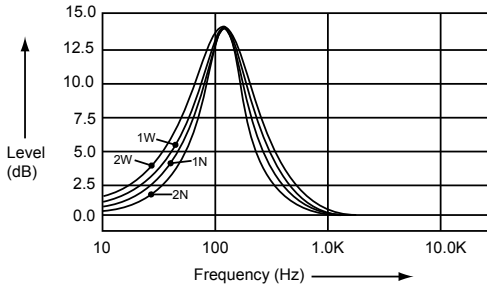

Figure 1
6. **Audio/Enter Button:** Press Audio/Enter to navigate through the stereo sound functions. Short press “AUDIO” button to access the audio menu. User can navigate thru the audio menu items by pressing the “AUDIO” button repeatedly, or by pressing the Tuning Up (22) or Tuning Down Button (21). Once the desired menu item appears on the display, adjust that option by using the Volume Up (7) or Down button (8) within 5 seconds. The unit will automatically exit the Audio Menu after five seconds of inactivity.
- **BASS-Q: (Bass Quality Factor):** User has 5 seconds to use the Volume Up or Down button to adjust the desired Bass Quality Factor to 2N, 1N, 1W or 2W. See Figure 1.